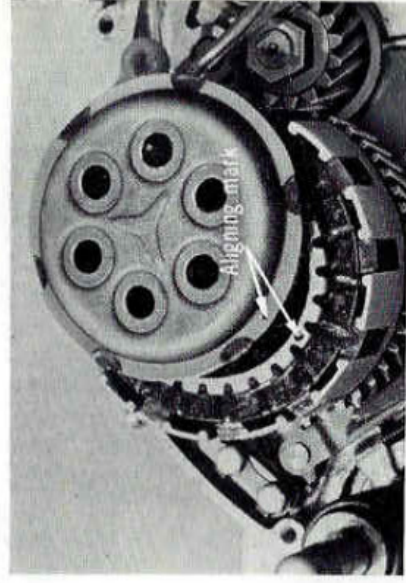

Fig. 8-3-23
- E. Align the positioning mark on the **clutch pressure plate** with the mark on the edge of the clutch sleeve hub. (Fig. 8-3-23)